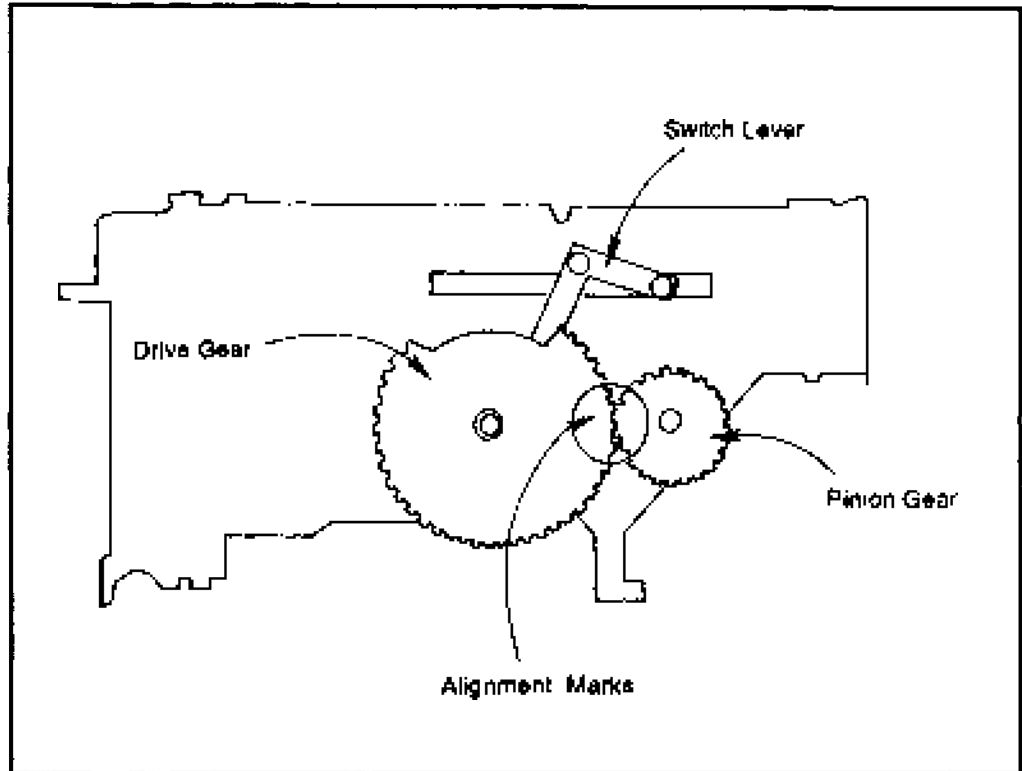

Figure 33: Switch lever pin alignment
- The two pins of the switch lever should be inserted into the groove outside the drive gear. Figure 33 shows where this alignment takes place.